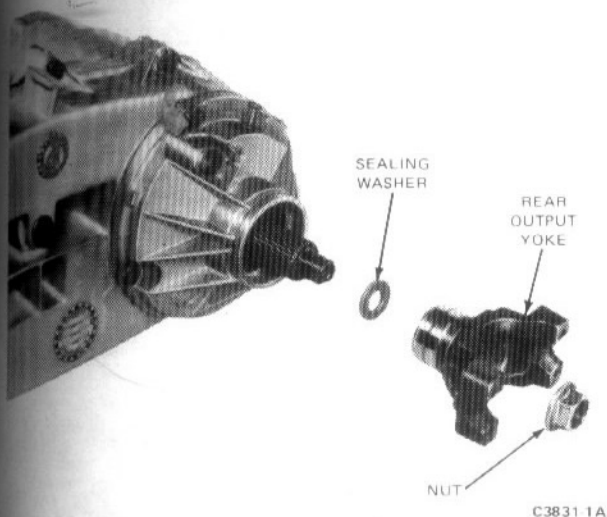

FIG. 5 Rear Output Yolk
3. From both output yokes (front and rear), remove the attaching nuts, and remove yokes and sealing washers (Fig. 5).